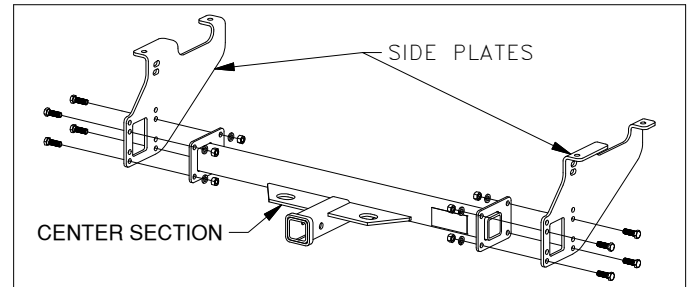

Figure A3: Center section and side plate assembly.
2. **Assemble the hitch.** Using the required orientation, attach the side plates using eight 1/2" x 1-1/2" cap screws, lock washers and nuts, as shown in Figure A3. Attach the side plates so that the "ears" of the side plates are toward the outside. Do not fully tighten hardware at this time.